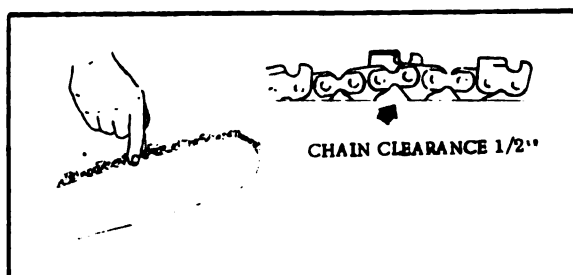

FIGURE 3 - PROPER CHAIN TENSION.
Install spacers (Ref. No. 71); sprocket guard plate (Ref. No. 72) and nuts (Ref. No. 74). Tighten nuts lightly, then adjust tension by tightening screw (Ref. No. 70 until chain is as shown on drawing illustrating correct tension (Fig. 3, page 4). Then tighten nuts (Ref. No. 74) securely.
DO NOT RUN YOUR SAW WITH A TIGHT CHAIN --- the result will be failure of the guide bar within a few minutes. (See illustration, Fig. 3, page 4 on correct chain tension.)
- 3) Be sure to tighten chain to proper tension (Figure 3, this page). The operator should be able to lift bottom of the chain from center of guide bar approximately 1/2". Adjust tension accordingly to get proper clearance.
- 5) **NOTE-** A new chain will stretch during first few hours of operation. Check chain clearance (Figure 3, this page) frequently during this period.